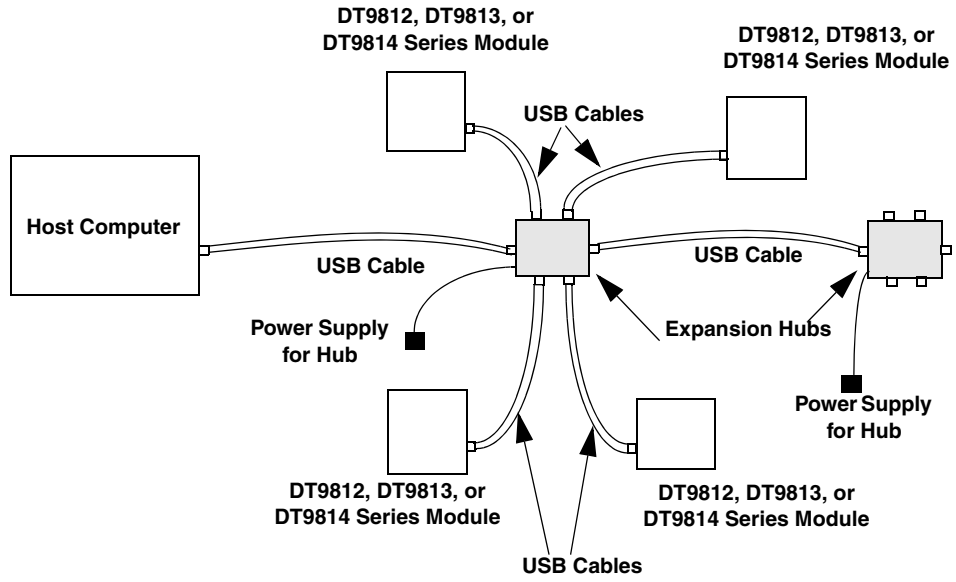

Figure 4: Attaching Multiple DT9812, DT9813, and/or DT9814 Series Modules Using Expansion Hubs
5. Repeat these steps until you have attached the number of expansion hubs (up to five) and modules (up to four per hub) that you require. Refer to Figure 4.